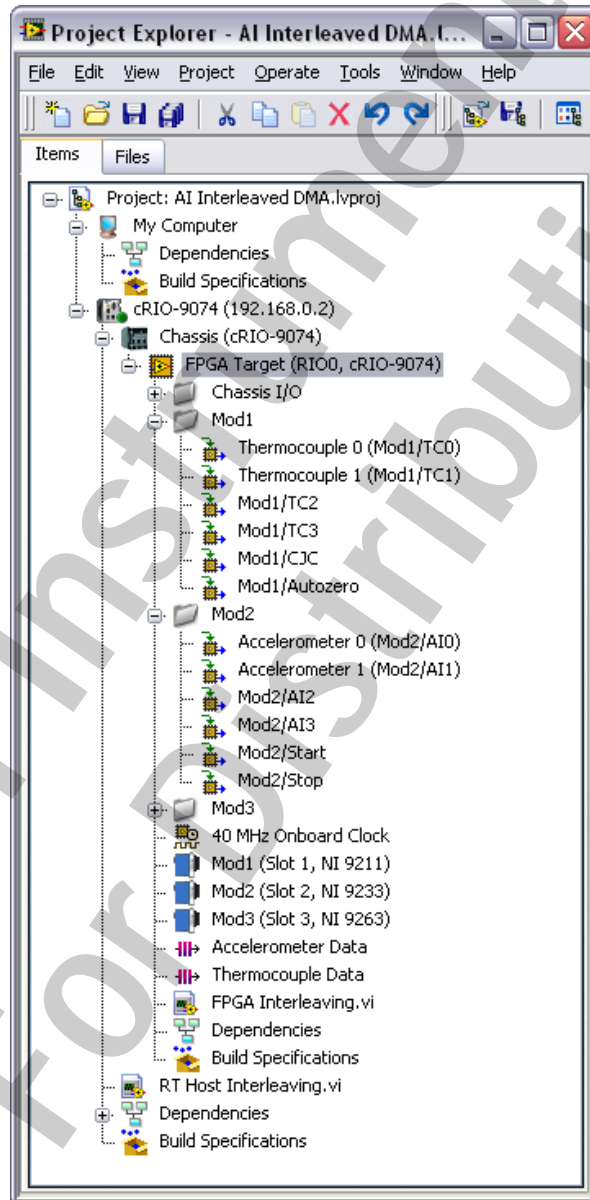

Figure 9-13. Interleaved DMA.lvproj
- ☐ Your project should resemble Figure 9-13.